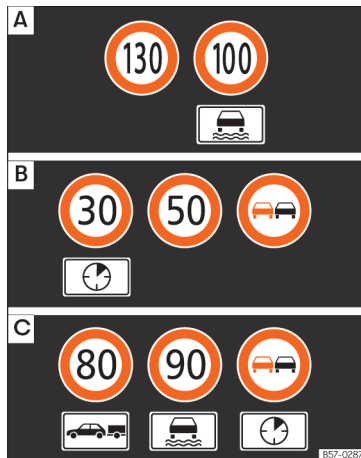

Fig. 70 On the instrument panel display: examples of speed limits or overtaking prohibitions with their respective additional signs.
The traffic signs detected by the system are displayed on the dash panel display »» Fig. 70 and, depending on the navigation system fitted in the vehicle, on the infotainment system as well »» page 91.
signs in front of the vehicle. After checking and evaluating the information from the camera, the navigation system and the current vehicle data, up to three valid road signs are displayed, »» Fig. 70  with their additional signs.
- **First:** The sign that is currently valid for the driver is shown in the left side of the screen. For example, a maximum speed limit of **130 km/h (100 mph)** »» Fig. 70 .
- **Third:** A sign valid only with restrictions, e.g. No overtaking at certain times, will be displayed in third place »» Fig. 70 .